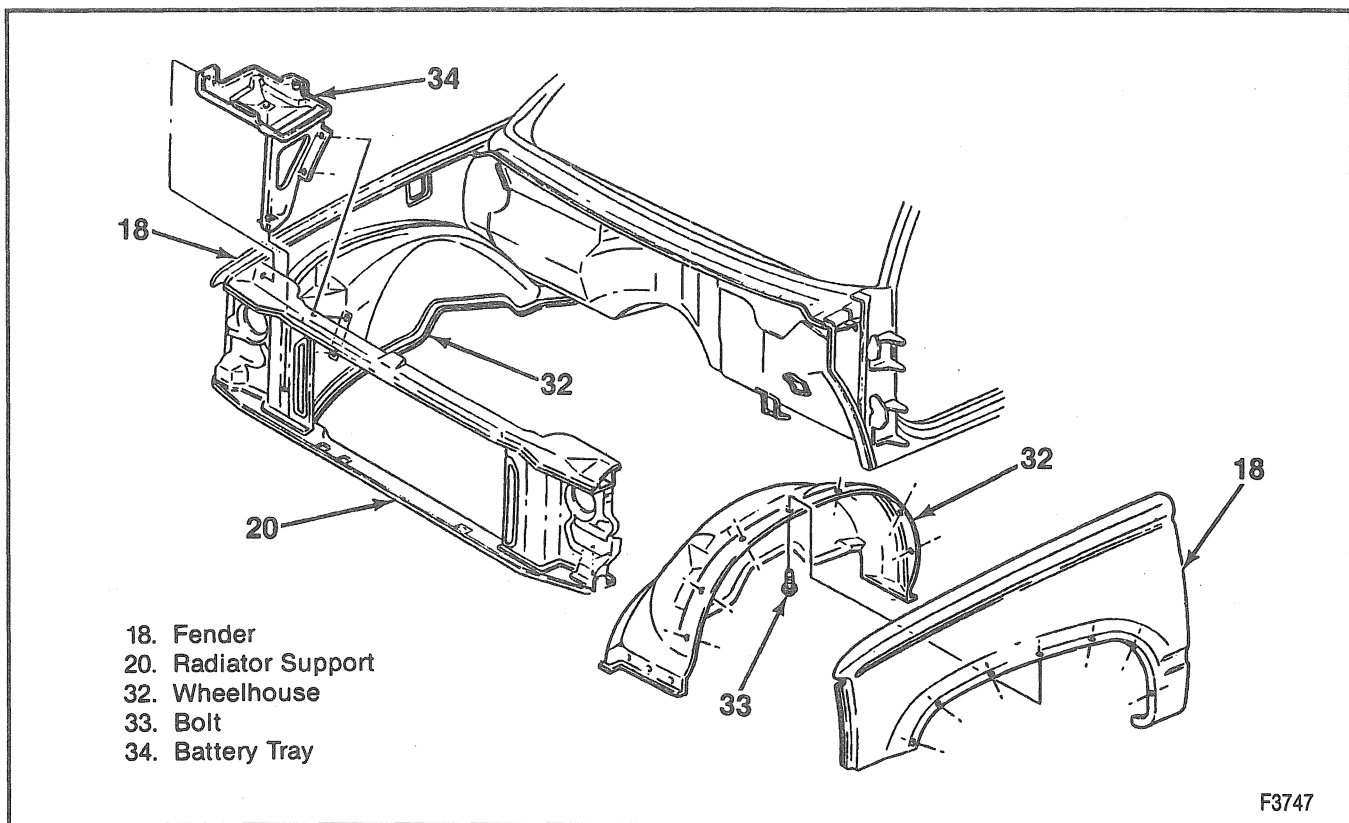

Figure 9—Fender and Wheelhouse Assemblies
Remove or Disconnect (Figures 9 through 11)
- 13. Bolts holding the fender to the wheelhouse (Figure 9).
Install or Connect (Figures 9 through 11)
- 2. Bolt from inside the engine compartment (Figure 9).
7. Bolts through the wheelhouse to the fender (Figure 9).
11. Bolts holding the fender to the wheelhouse (Figure 9).